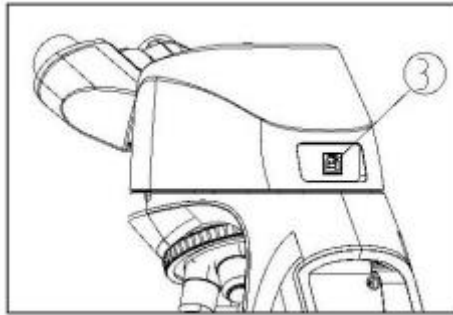

Figure 13
3. Adjust the microscope and observe using the binoculars. Once the image is clear, connect the digital observation head's RJ45 interface (③) to the computer using the video data connection cable. Use the appropriate professional software to view and capture the image. (See Fig. 13)